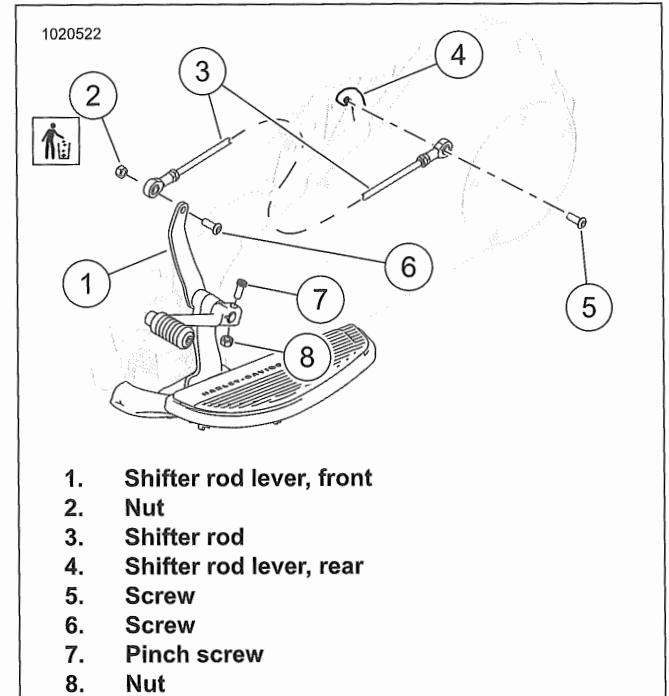
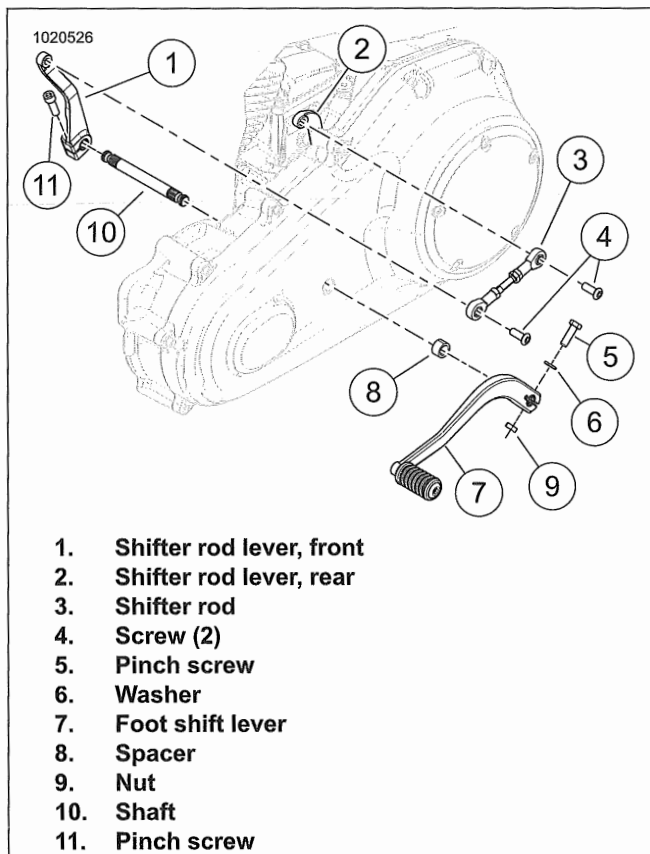

Figure 5-3. Shift Linkage: Forward Foot Control Models
Figure 5-4. Shift Linkage: Mid-Mount Foot Control Models
- See Figure 5-3. Discard nut (2) and remove screw (6) from front shifter rod lever (1).
- Remove screw (5) from rear shifter rod lever (4).
- Remove shifter rod (3)
- Install screw (5). Tighten.
- See Figure 5-4. Remove screws (4).
- Remove shifter rod (3).
- See Figure 5-3 or Figure 5-4. Disconnect forward end of shifter rod from forward shifter rod lever.
- Loosen jamnuts. Adjust rod (3) as necessary.
1. See Figure 5-3 or Figure 5-4. Mark position of lever in relation to shaft.
2. **Mid-Mount Foot Control Models:** Remove nut (9).
1. See Figure 5-3 or Figure 5-4. Remove screw to free linkage from front shifter rod lever (1).
- a. See Figure 5-3. Remove pinch screw (7) and nut (8).
- a. See Figure 5-4. Remove pinch screw from front shifter rod lever (1).
- b. Pull foot shifter rod lever (1) and shaft outward until shifter rod lever is free.
- c. Remove shifter rod lever (7).
- a. See Figure 5-3. Install shifter rod lever (1) and shaft.
- c. Install pinch screw (7). Tighten.
- a. See Figure 5-4. Hold shifter rod lever (1) in place.
- 3. Secure linkage to shifter rod lever (1). Tighten.